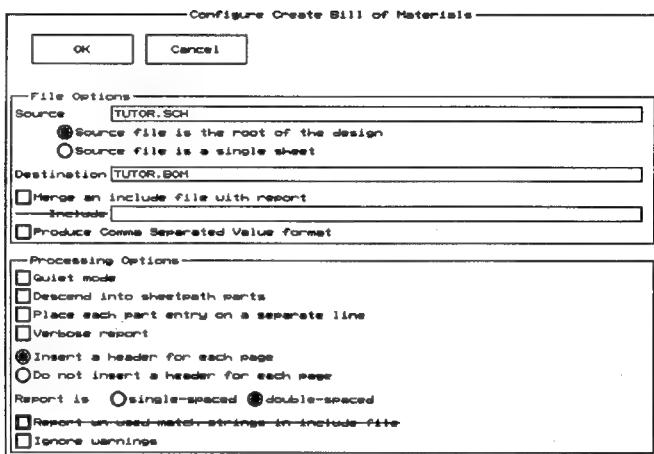

Figure 7-12. Configure Create Bill of Materials screen.
1. Select **Create Bill of Materials**, Local Configuration, and then **Configure PARTLIST**. The **Configure Create Bill of Materials** screen displays (figure 7-12).